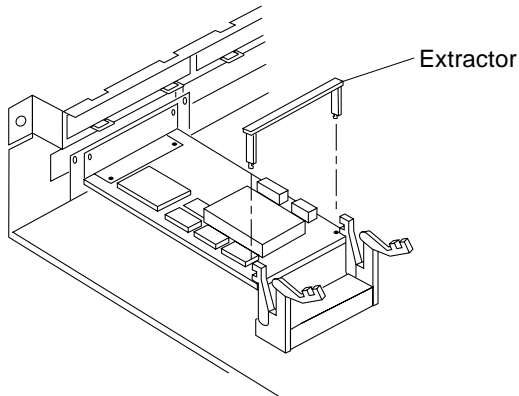

FIGURE 10-5 Installing the Card Extractor
6. **Insert the extractor into the SBus card** (FIGURE 10-5).